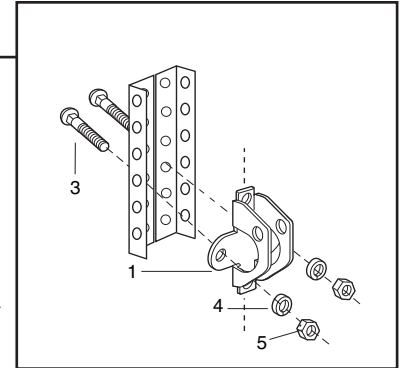

Figure 2B
- Alternately, use two 8mm (5/16") bolts (3), lock washers (4) and nuts (5). (Figure 2B)